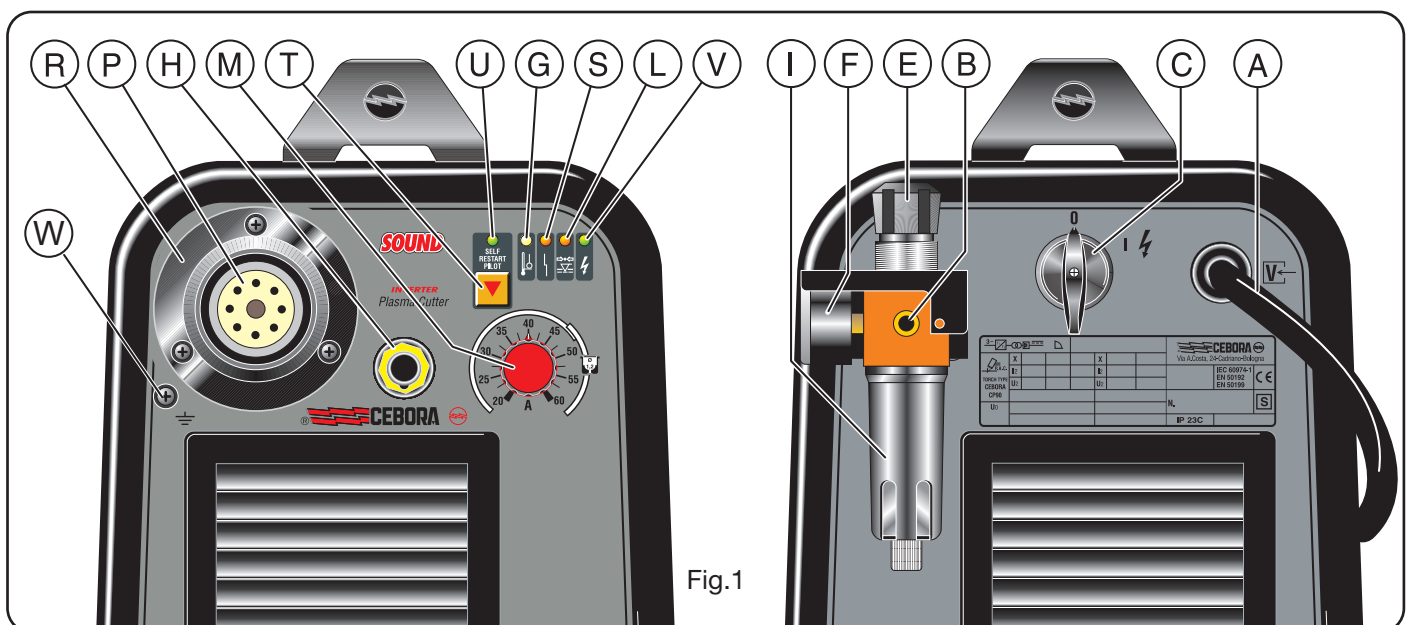

Fig.1
### 2.1 TORCH ASSEMBLY (Fig. 1)
- 1) To avoid overloads. It is evidenced by the **G** led continuously on (see fig.1).
- Located on the torch inlet to prevent low air pressure. The LED **L** lights when tripped (see fig.1). The blinking L led means that the pressure has temporarily gone below 3.2 ÷ 3.5 bar.